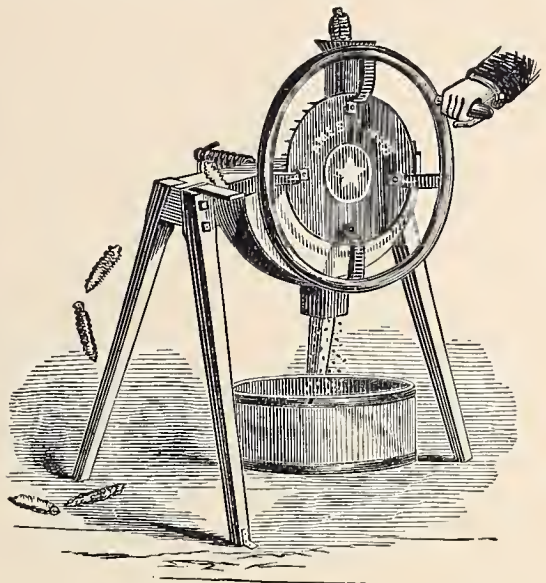

Fig. 412. — Prairie Corn-Sheller.
*The Prairie Corn-Sheller*, represented by *Fig. 412*, is a cheap machine for this purpose, and is much liked in some markets. It is adapted to shelling all varieties of corn.